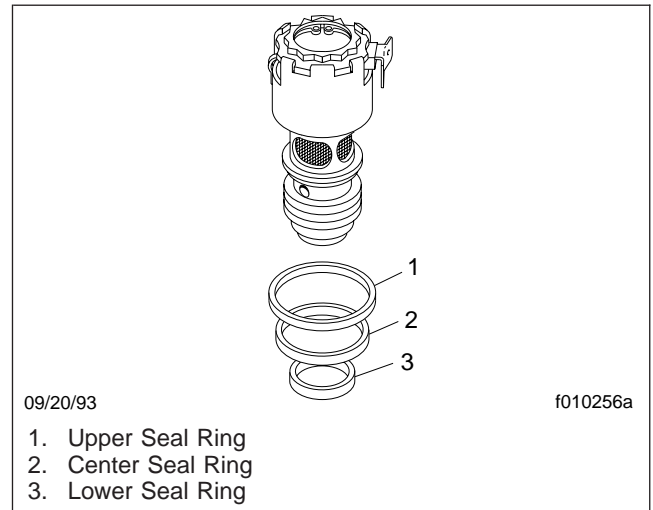

Fig. 2, Solenoid Seal Rings
7. Remove and discard the three rubber seal rings. See Fig. 2. If the lower ring stays in the bottom of the solenoid bore in the housing, remove it with a piece of wire.